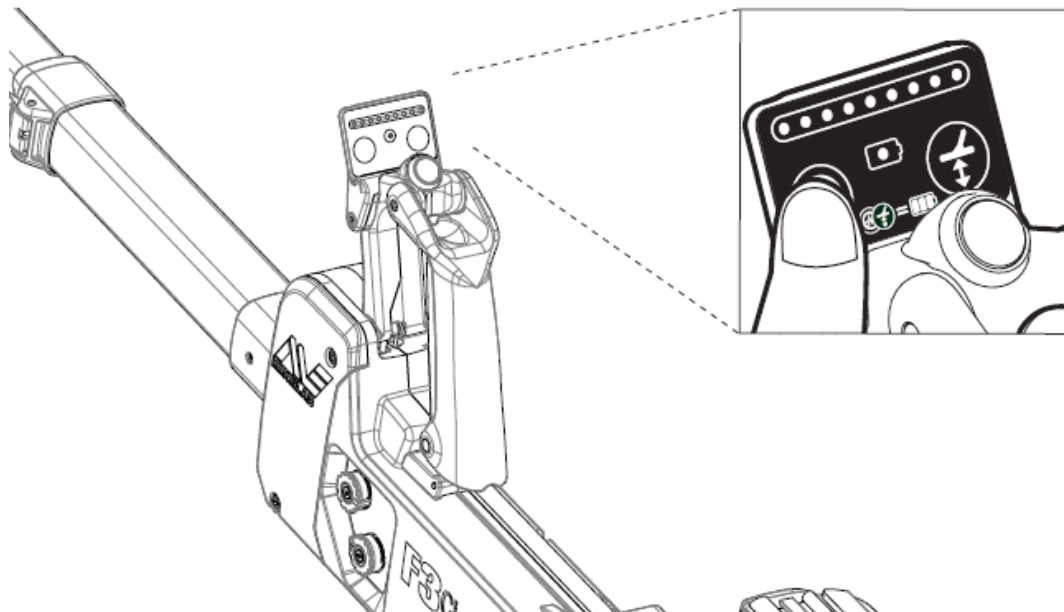

Figure 4: Noise Cancel
- Press and **immediately release** the Noise Cancel button. (Figure 4)